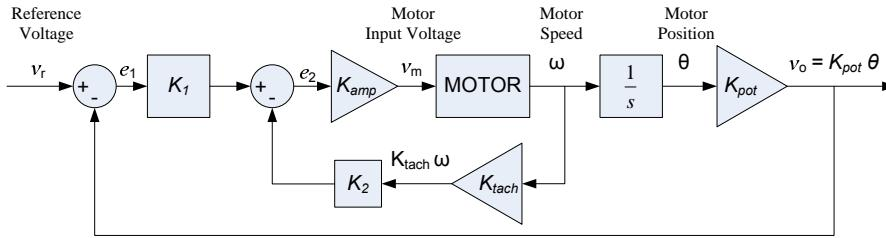
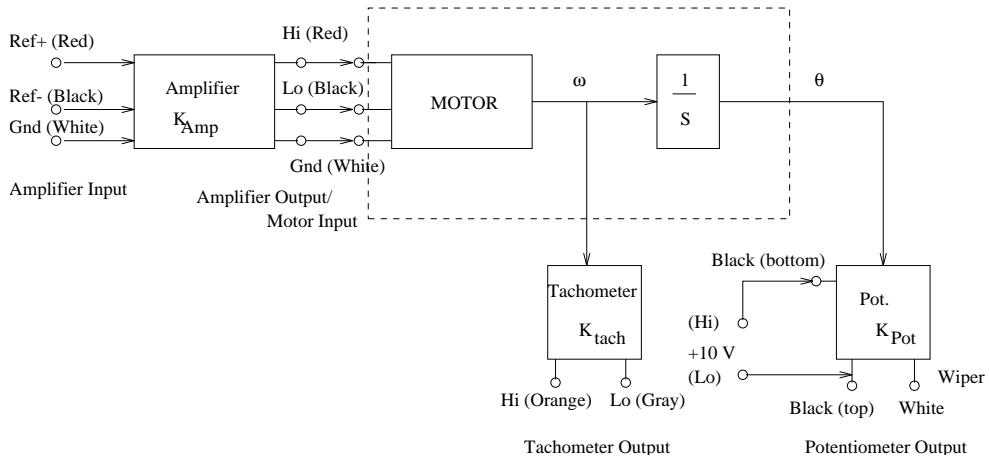
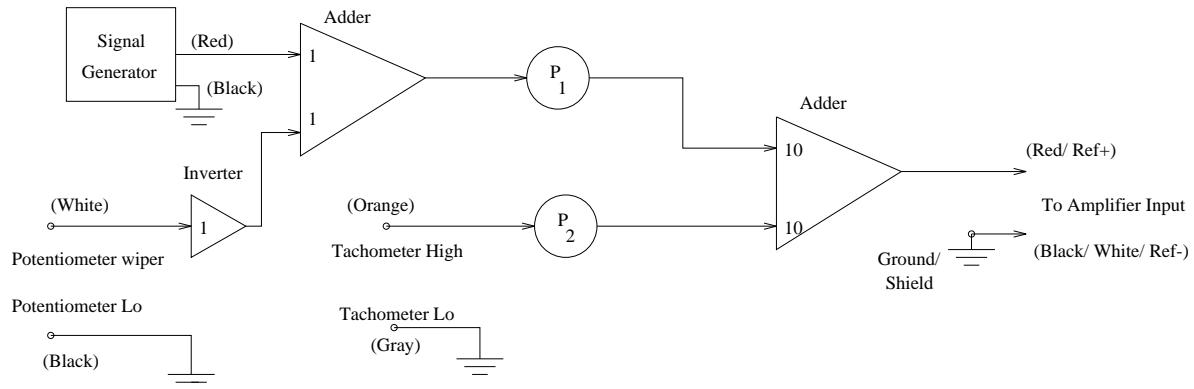

Figure 5.1: A Feedback Control System for the DC Motor
Figure 5.2: Motor Block Diagram.
Figure 5.3: Analog Computer Wiring Diagram.
- (b) We next consider the design of a closed-loop position control system using PD control. The structure is shown in Figure 5.1. For the sake of concreteness, assume from now on that the block MOTOR has the transfer function
In the lab, we will connect the system illustrated in Figure 5.2 to the analog computer set up shown in Figure 5.3, to create the closed-loop system of Figure 5.1. We are then interested in the voltage from the potentiometer, the output of the system, and how it behaves as the reference input voltage  $v_r$  is varied. This reference input will be supplied by the HP waveform generator.
- (e) Draw a wiring diagram for the analog computer setup shown in Figure 5.3 ( $P_1$  and  $P_2$  are variable). (This diagram implements the PD control law.)
6. To understand what portion of the control loop is accomplished in SIMULINK, refer to Figure 5.1. The inputs to the PC are  $V_{\text{pot}} = v_o$  and  $V_{\text{tach}} = K_{\text{tach}} \cdot \omega$ , and the output from the PC is  $e_2$ . Therefore everything between the inputs and the output will be done in software. You will also output  $v_r$  for display on the oscilloscope.
*Comment:* the  $B_{Total}$  and  $c$  gains obtained do not compensate friction perfectly. But, it is true that employing friction compensation does help reduce the effects of friction. Because the system has friction compensation now, the MOTOR transfer function in Figure 5.1 has technically changed. Because of this, for Step 6 below you would ideally go back to Prelab 5 and re-calculate gains  $K_1$  and  $K_2$  based on the new